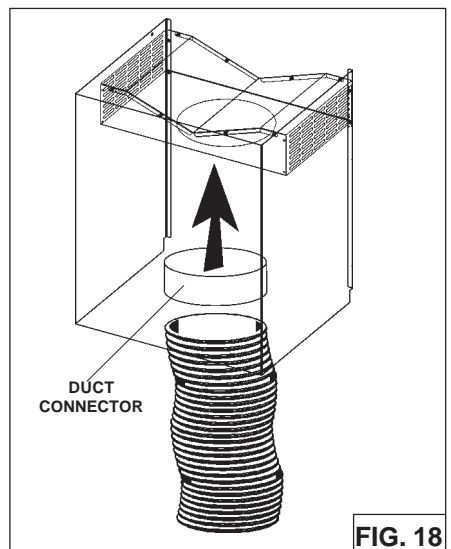

FIG. 18
3. Attach 6" expandable ducting to the plenum using the adapter and tape joints with aluminum duct tape (Fig.18).
6. Attach flex duct to plenum through the duct connector (Fig.18).
7. Attach upper flue to flue bracket using (2) 3.9 x 6mm flat head screws.